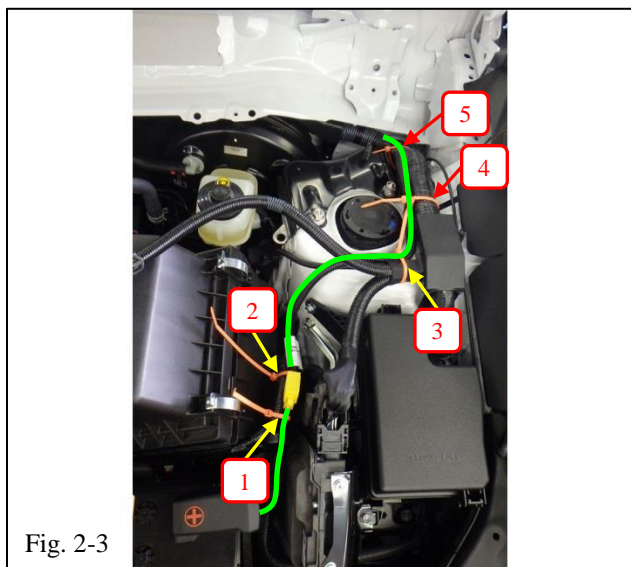

Fig. 2-3
- (b) Starting from the B+ battery terminal, route the trailer power wire along the vehicle wire harness in the underhood compartment (Fig. 2-3). Follow the vehicle wire harness towards and along the LH fender and secure the trailer power wire with wire ties.